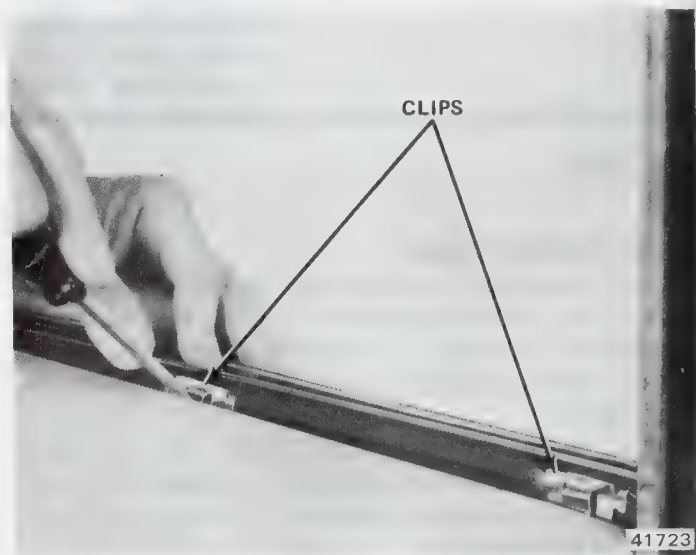

Fig. 3J-62 Clip Removal
(1) Pull weatherstrip from door flange at retaining clips.
(2) Insert screwdriver into retaining slots and slightly distort slots (fig. 3J-62).
(3) Lift and remove weatherstrip.